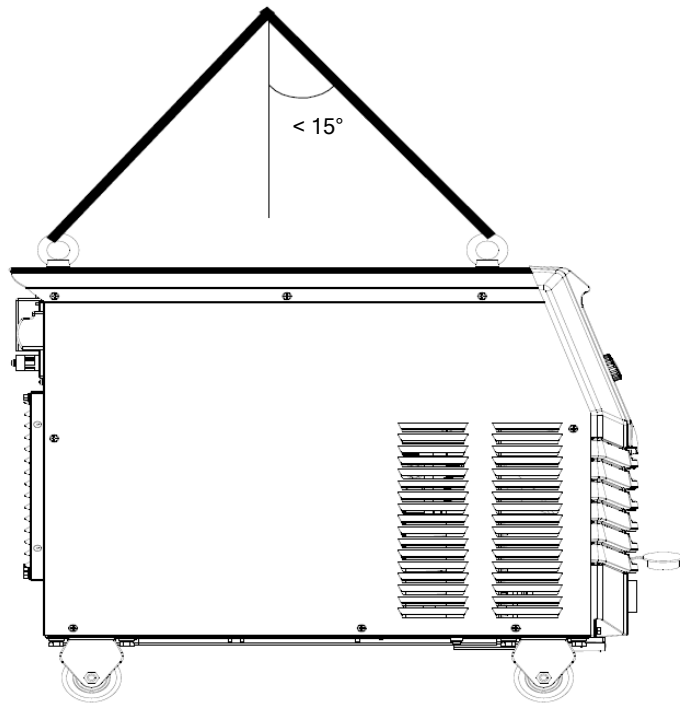

Figure 2-1 Schematic diagram of moving the welder using a crane
3. If a crane is required to move the welder, use hoist rings and two lifting belts, and the included angle of each lifting belt and the vertical direction must be less than 15 degrees. See Figure 2-1.